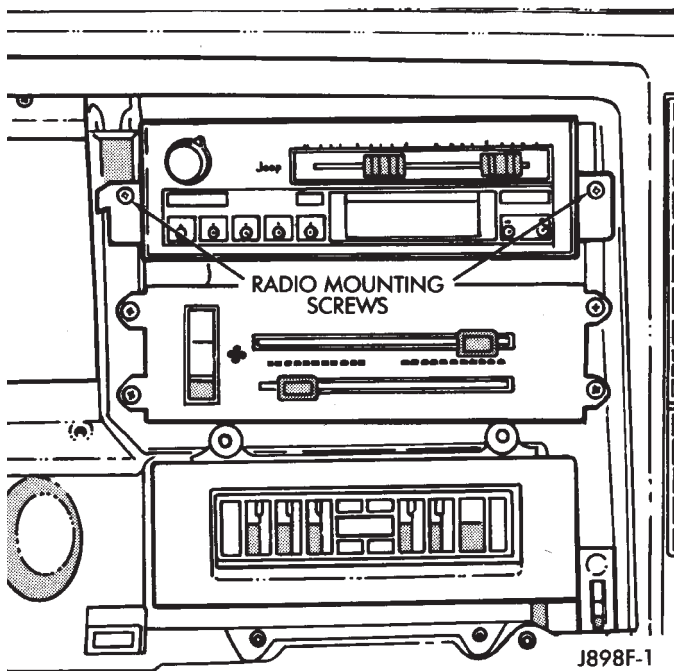

Fig. 5 Radio Mounting Screws Remove/Install - XJ
- (4) Remove 2 radio attaching screws (Fig. 5).